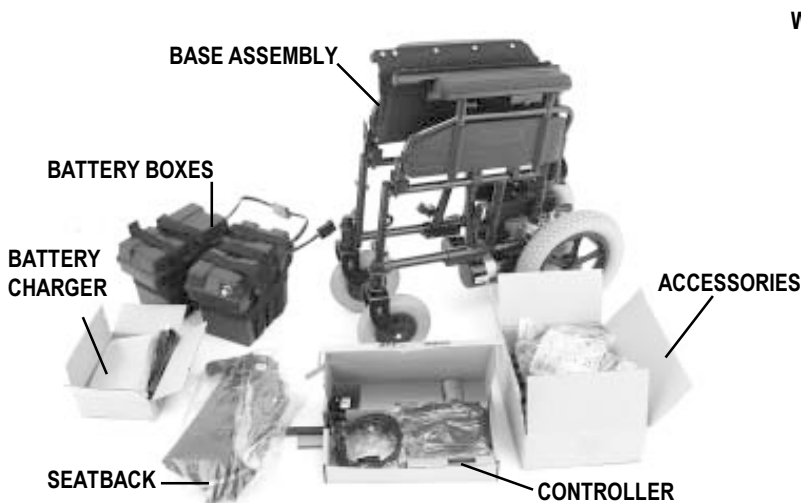

Figure 3. Pride LX Components
1. Remove the contents and take inventory. If any parts are missing, contact your authorized Pride provider immediately. See figure 3.